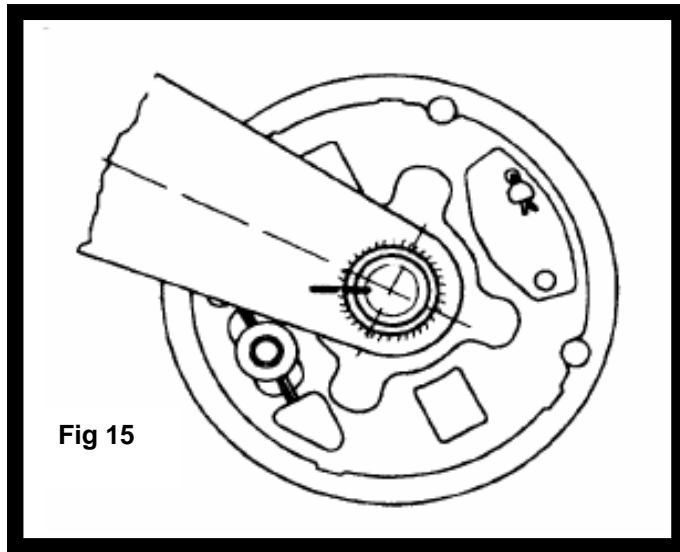

Fig 15
- Mark the position of the plastic cap on the rocker arm with a felt tip pen so that any movement can be detected (Fig 15).